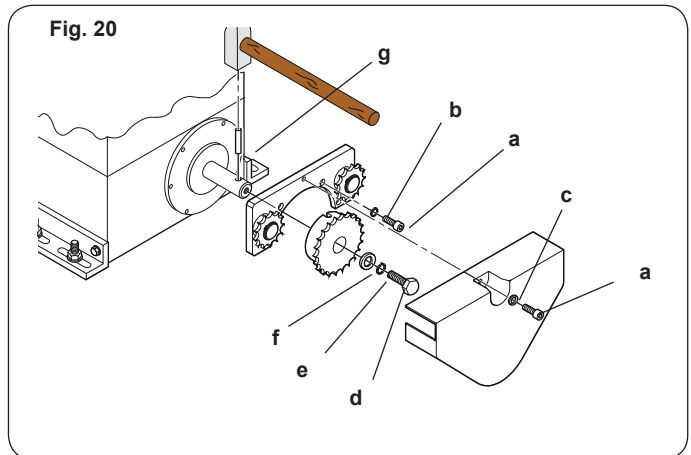
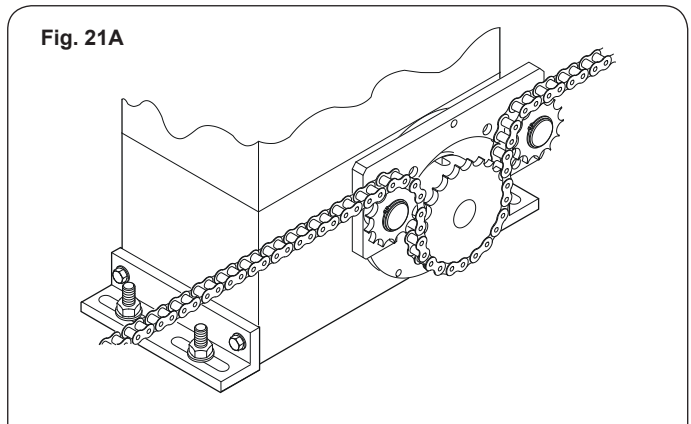

Fig. 20
Fig. 21A
4.5.2. MODEL 844 ER RF (Figs. 20 & 21)
2. Fit the idle transmissions bracket on the operator flange, using the four screws **a** (M5 x 12) and the appropriate washers **b**, in the kit as shown in Fig. 20.
4. Pass the chain as shown in Fig. 21A and install the cover with screw **a** and washer **c** as in Fig. 20.